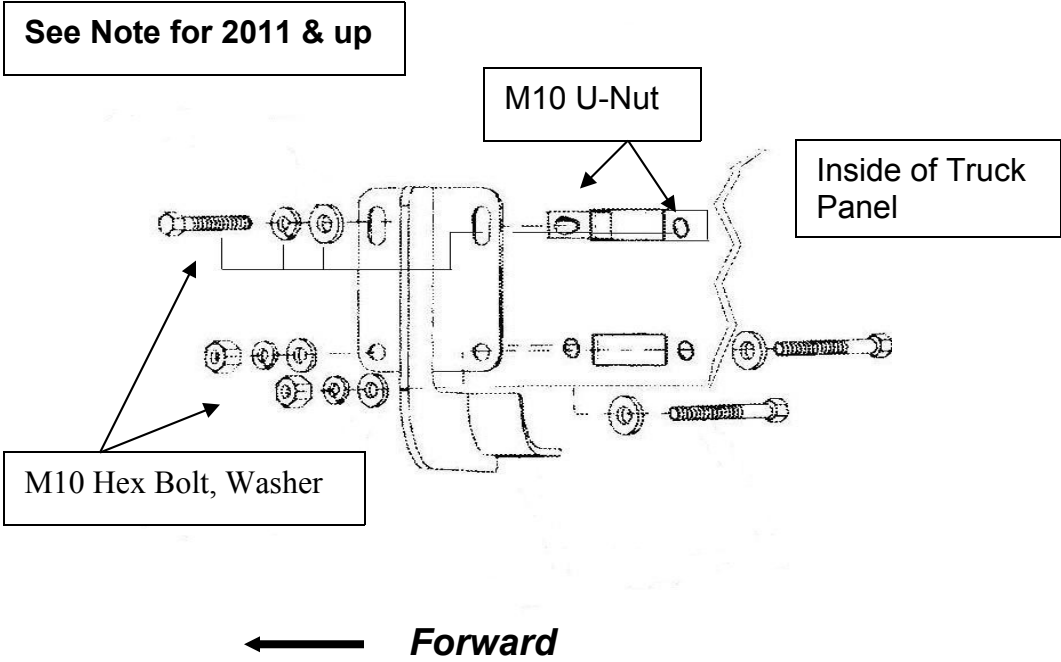
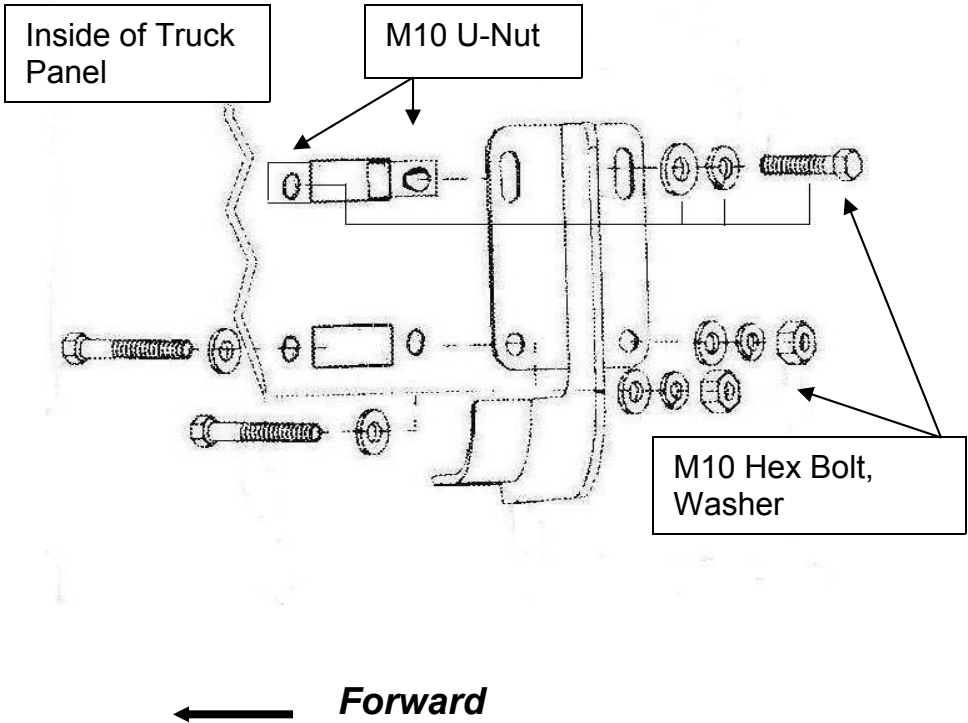

Figure 1. Passenger Side – Front
Figure 2. Passenger Side – Rear
2. Install extruded U-Nuts as shown for both front and rear bracket positions (**see Fig. 1 and Fig. 2**).
3. Install passenger side front and rear bracket as shown on inside rocker panel of vehicle (**see Fig. 1 and Fig. 2**). Hand tighten.